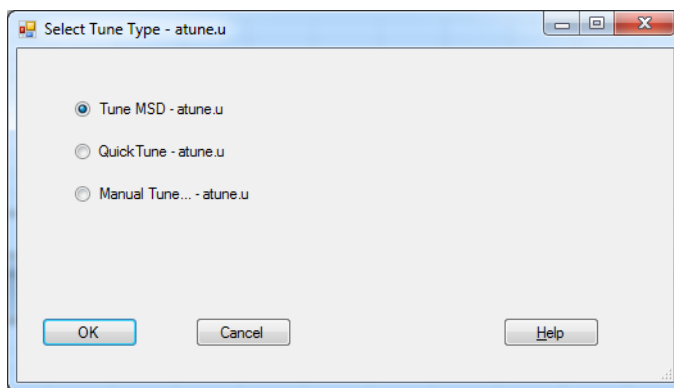

Figure 32 Select tune type dialog
- 4 Click the **MS Tune** icon to display the **Select Tune Type** dialog. (See Figure 32.)